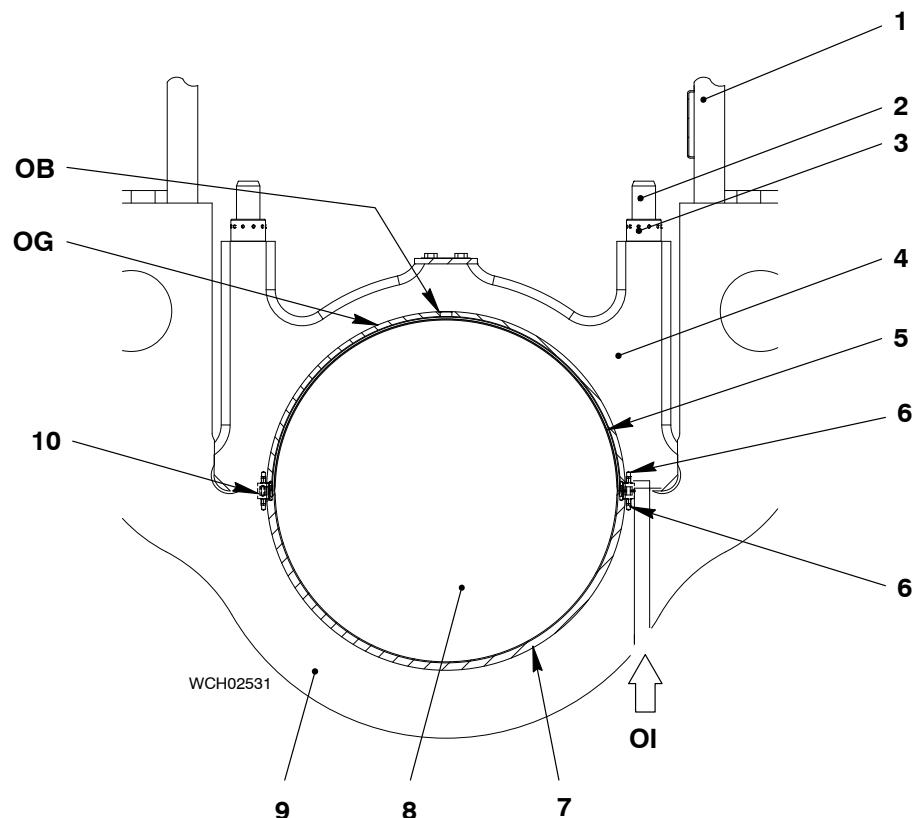

Fig. 1: Main Bearing
The main bearing has a bottom bearing shell (7, Fig. 1) and a top bearing shell (5).